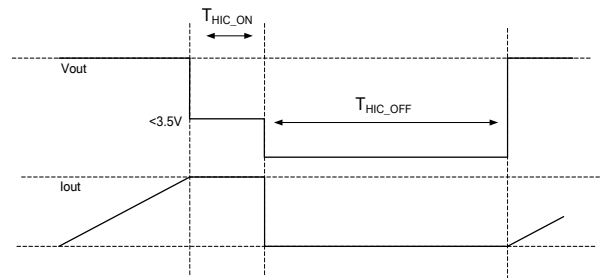

Figure 4: Over-Current Protection
For the current limit setting, refer to the Current Limit vs. R_{Limit} curve on page 6. If the set current limit is less than 500mA, the current limit accuracy worsens slightly. An external R_{Limit} resistor can set the current limit threshold. If an over-current (OC) condition occurs but V_{OUT} > 3.5V, the MP5030D works in constant-current (CC) limit mode without hiccup. If OCP is triggered and V_{OUT} < 3.5V for 2ms, the MP5030D enters hiccup mode. In hiccup mode, the MP5030D turns off the power MOSFET (see Figure 4).